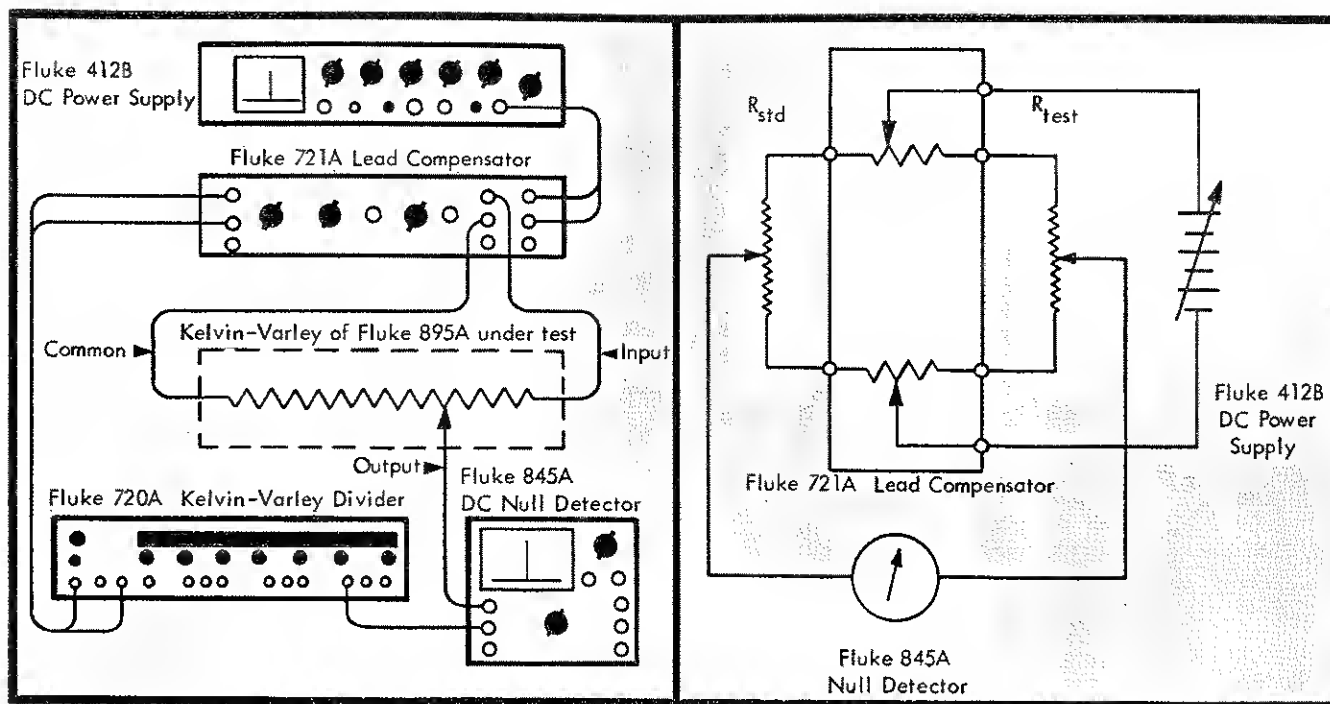

Figure 4-6. KELVIN-VARLEY DIVIDER TEST
e. Connect the equipment as shown in Figure 4-6.